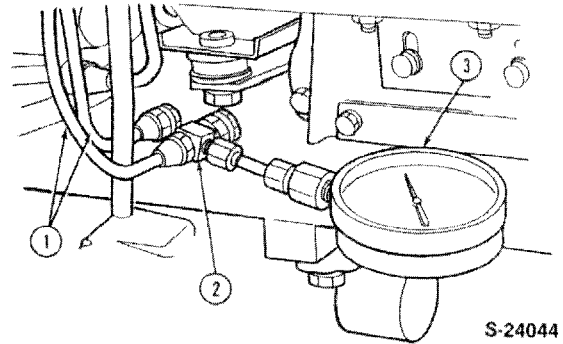

Figure 36
2. Attach the tee fitting to the steering cylinder line Figure 36.